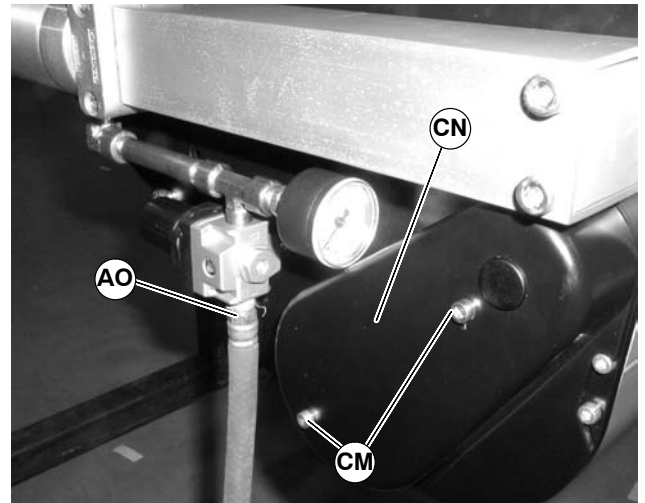

Figure 75
1. Remove air supply and remove hose (AO of Figure 75) from center drive.
2. Remove screws (CM of Figure 75) and guard (CN).